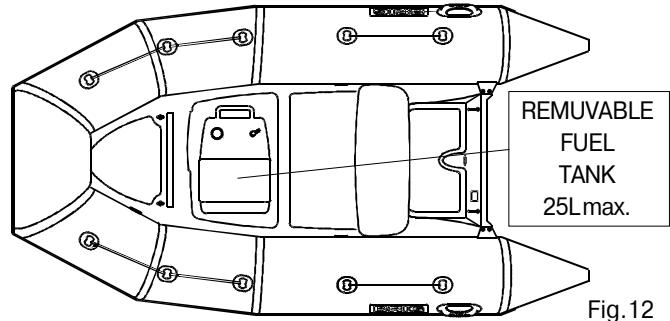

Fig.12
- for DeLuxe and Tender Deluxe versions - inside the Tender console (fuel tank 25L max) (see Fig.12)